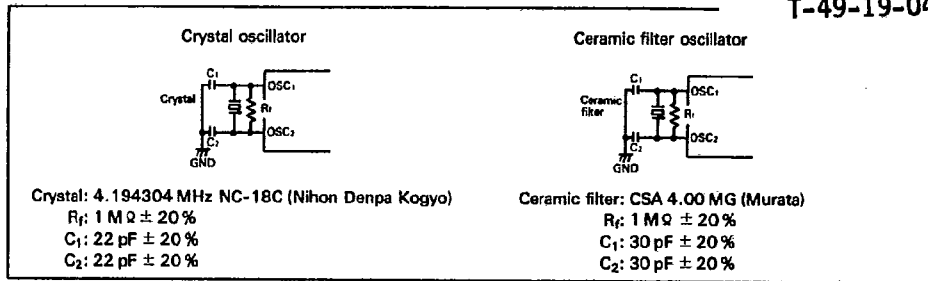

Figure 30. Oscillator Circuit
- Notes: 1. Oscillator stabilization time is the time until the oscillator stabilizes after V_{CC} reaches its minimum allowable voltage after power-on, or after RESET goes high. At power-on or STOP mode release, RESET must be kept high for at least t_{ac}. Since t_{ac} depends on the crystal or ceramic filter's circuit constant and stray capacitance, please get the manufacturer's advice when designing the RESET circuit. (See figure 30)